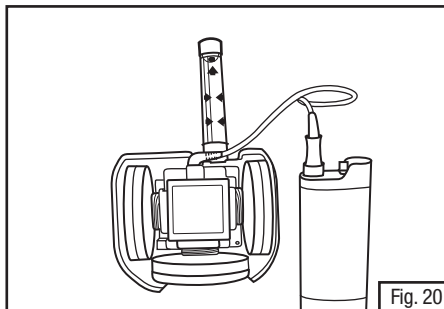

Fig. 20
5. Be sure that the Turbo PAPR Unit and flow meter are resting in a vertical position. The Turbo unit may need to be propped up so that the lower cartridge opening is not blocked. Be sure that the filter/cartridge/canister selected for the workplace is secured to the PAPR before testing airflow (Fig. 20).